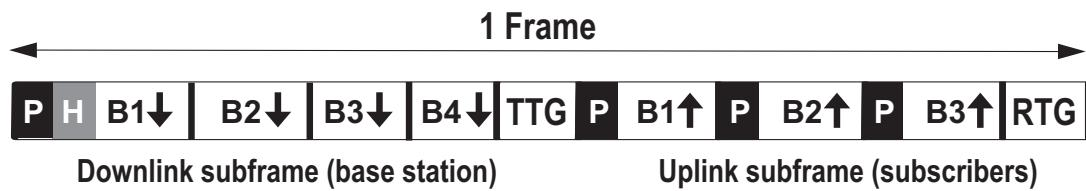

Figure 2. Downlink and uplink subframes.
The typical 802.16-2004 MAC frame structure consists of a downlink (DL) subframe and an uplink (UL) subframe (Figure 2). Currently there are seven supported frame durations in the IEEE 802.16-2004 standard ranging from 2.5 to 20 ms.